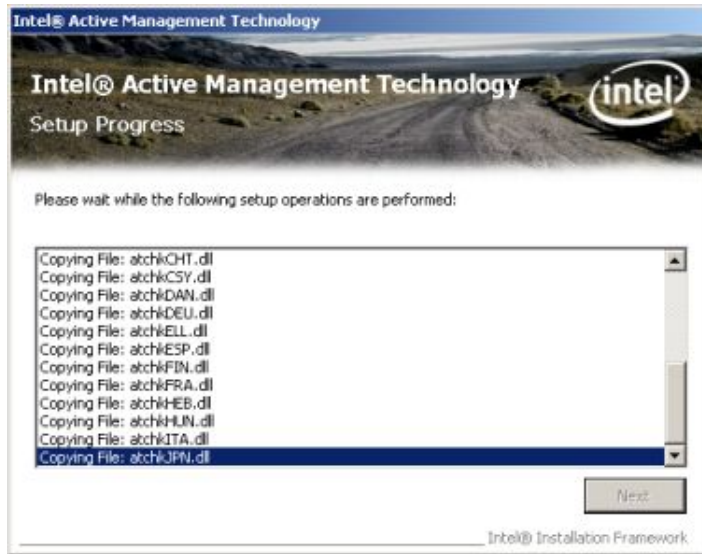

Figure 7-66: IAMT Setup Operations
Step 10: Setup operations are performed. See **Figure 7-66**.
Step 11: When the Setup Operations in **Figure 7-66** are complete, the window in **Figure 7-67** appears.